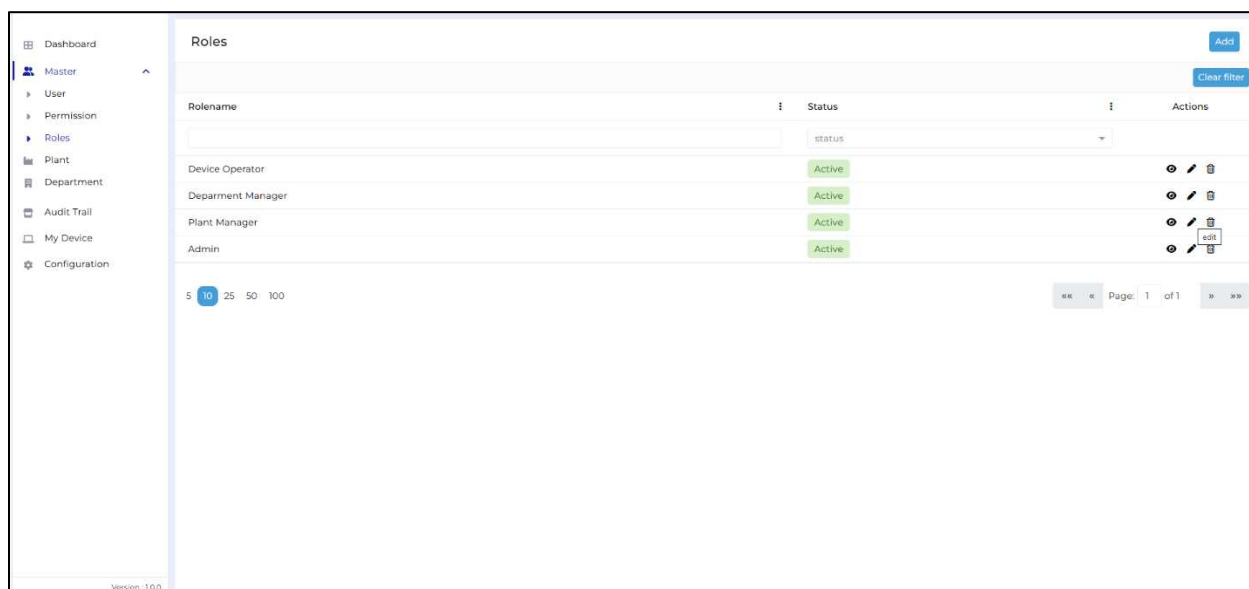

Figure 40 Add/Update Roles in EMS Cloud Application
- New role can be added , if required by clicking on the Add button shown in the figure 40.